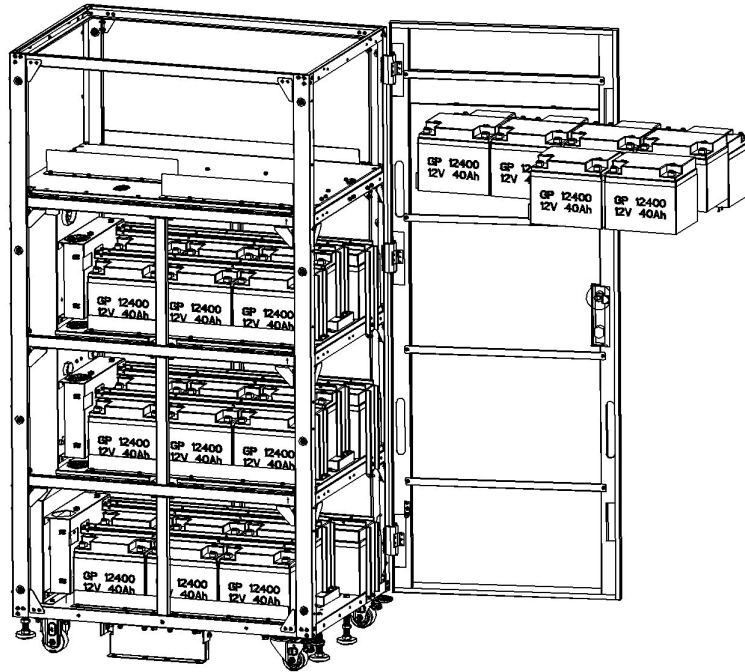

Figure 5-49
9. Reinstall 3 battery retention brackets with screws in layer 3 (Figure 5-49).
10. Install 10 battery packs in layer 4 (Figure 5-49).